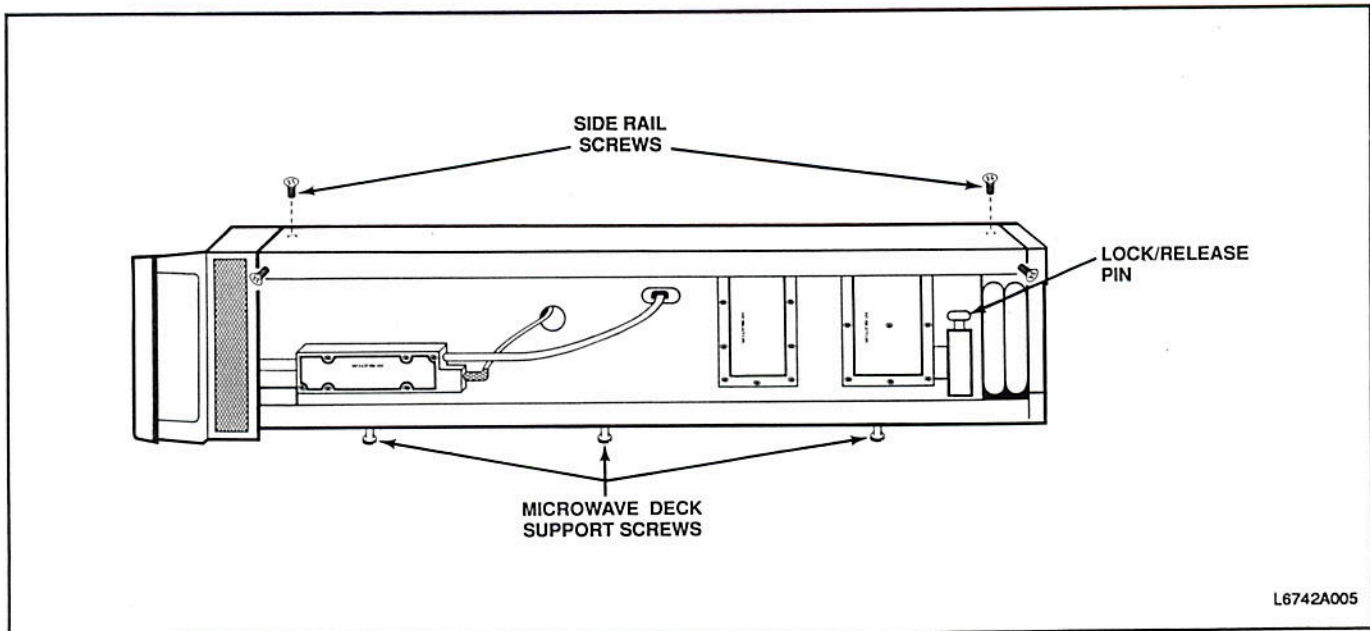

Figure 7-5. Lowering the Microwave Deck
- Pass these cables through the grommet, to the bottom of the motherboard (Figure 7-5).